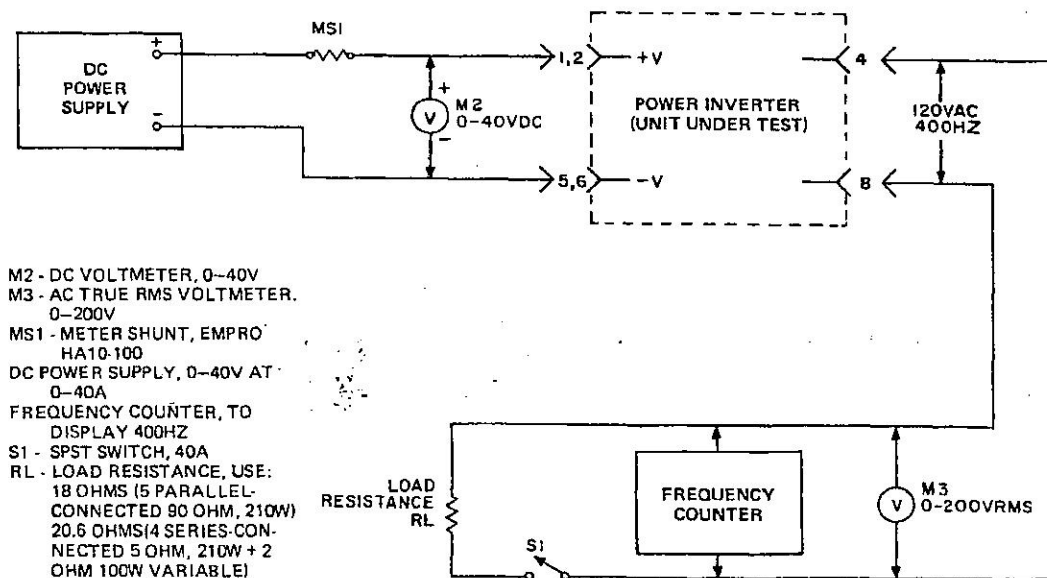

Figure 6-1. Test Setup Diagram
b. Connect the power inverter to the power supply, test equipment, external loads and associated equipment as shown in figure 6-1, and described below. Do not apply power to the unit under test at this time.
(1) Connect the output of the variable voltage power supply to pins 1(+) and 5 (-) of test connector P1.
(2) Connect the external resistor loads in series with the ammeter and SPST switch between pins 4 and 8 of test connector P1.
(3) Connect the ac voltmeter and the frequency counter between test points TP1 and TP2.
6-17. OUTPUT VOLTAGE ADJUSTMENT. Connect power inverter to test setup, figure 6-1.
- a. Connect the power inverter (unit under test) into the test setup shown in figure 6-1.
a. Connect power inverter into the test setup shown in figure 6-1, with load resistor RL set for 20.6 ohms.